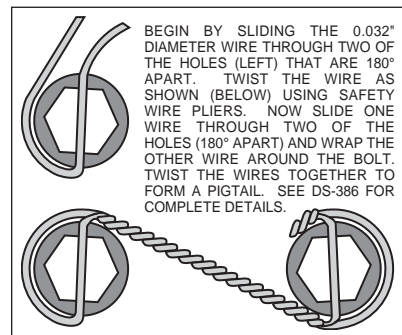
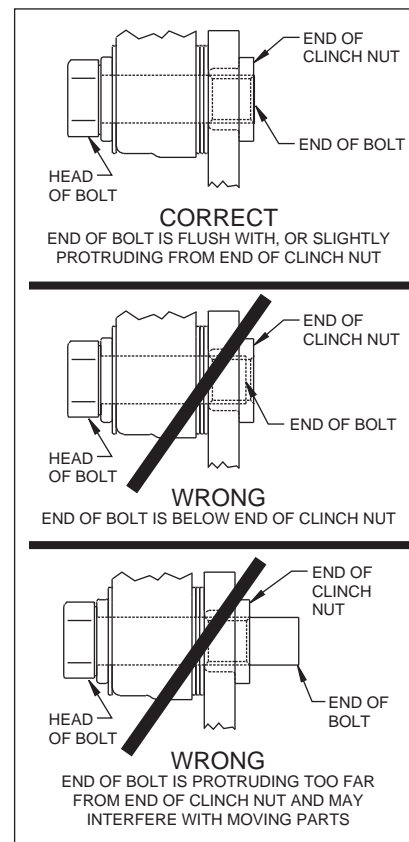

Figure 5. Safety Wire Diagram
Figure 6.
- With the slot pointing upward and the mounting ears pointing towards the rear of the vehicle, install the caliper mounting bracket (1) to the axle housing flange using the stock Original Equipment Manufacturer (OEM) bolts and nuts. Stock OEM hex nuts that retain the bracket (1) should be on the wheel side of the bracket. Apply red *Loctite*® 271 to the stock OEM bolt threads and torque to OEM specifications. **NOTE:** Some brackets act as the bearing retainer, while others help locate the bearing in the axle housing flange. Make sure the heads of the caliper mounting bracket insert nuts are FACING OUTWARD TOWARDS THE WHEEL.
- The rotor (3) has two sides. A flat side and an inset side. Bolt hat (2) to flat side of rotor (3) using bolts (5). Using an alternating sequence, apply red *Loctite*® 271 to the threads and torque bolts to 25 ft-lb. For an added measure of security, the bolts may be safety wired using standard 0.032 inch diameter stainless steel safety wire as shown in Figure 5. Please refer to Wilwood's data sheet DS-386
- Align the correct hole pattern in the hat (2) with the stud pattern on the axle flange. **NOTE:** Some OEM and after market axles come with stud sizes larger than 0.50" diameter. Verify stud size and have a qualified machine shop drill the hats to the correct size. Slide the hat/rotor assembly (2 and 3) over the wheel studs and against the axle flange face.
- NOTE:** Please reference the caution statement at the beginning of the assembly instructions. Mount the caliper (6) over the rotor (3) and onto the caliper mounting bracket (1) using the washers (7) and mounting bolts (8). View the rotor through the top opening of the caliper. The rotor should be aligned in the center of the caliper. If not, adjust the caliper by using 0.032 inch shims (9) by placing them between the caliper mounting bracket (1) and the caliper (6). Add as many shim washers (9) as necessary to achieve the correct alignment. **NOTE:** The end of the bolt must be flush with or slightly protruding from the head of the clinch nut. See Figure 6. Place spare shims (9) between washer and caliper mounting ear to achieve the proper mounting fastener configuration. Always use the same amount of shims on both the top and bottom caliper mounting bolts (8). Apply red *Loctite*® 271 to the mounting bolt threads (8), torque to 40 ft-lb. Caliper mount bolts may be safety wired for additional security.
- Position the Wilwood disc brake pads (10) into the caliper (6) and fasten with cotter pin (4). Steel backing plate side of brake pad should face the caliper pistons.